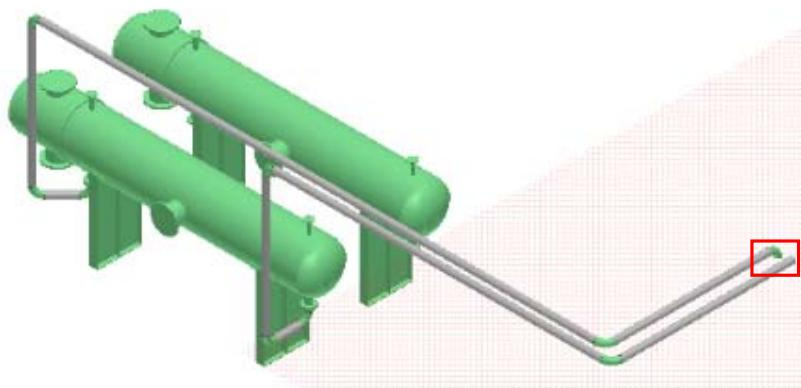

Figure 44: Routed Pipe 402-P
48. Now, on the **Route Pipe** ribbon, key in **0 ft 6in** in the **Length** drop-down list and use SmartSketch to locate the **U** glyph. Click in the graphic view to place the pipe, as shown in Figure 44.